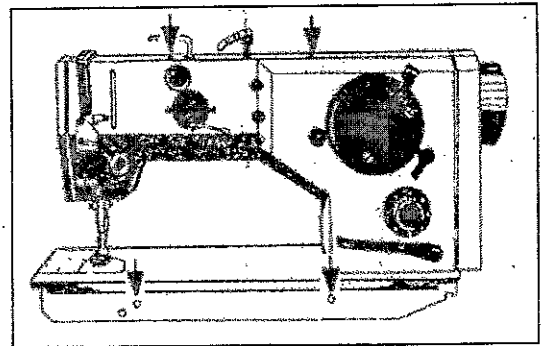
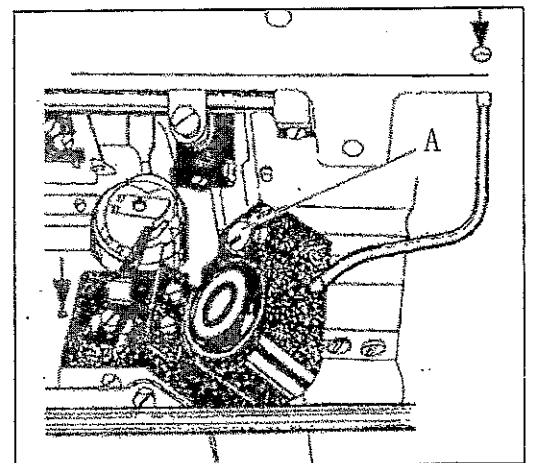

Fig.3
Fig.4
Clean the machine completely before operate it daily, and check the oil quantity of hook oil tank. Then inject oil as arrow shows in fig.3 and fig.4, start operation of machine.
12. The hook lubricating condition adjustment(Fig.4)